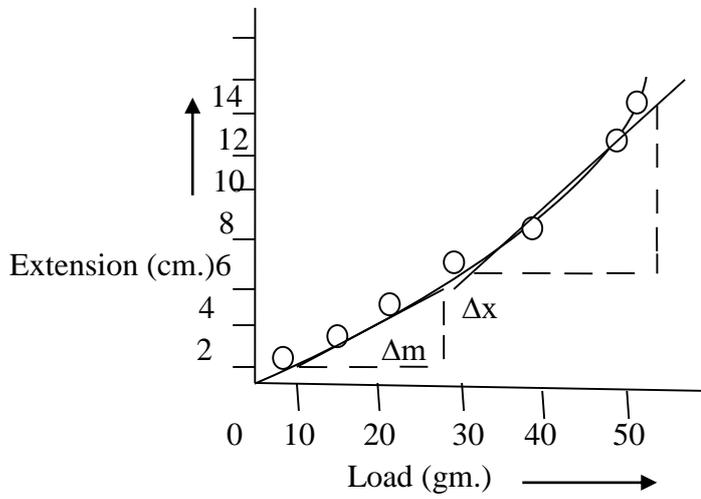
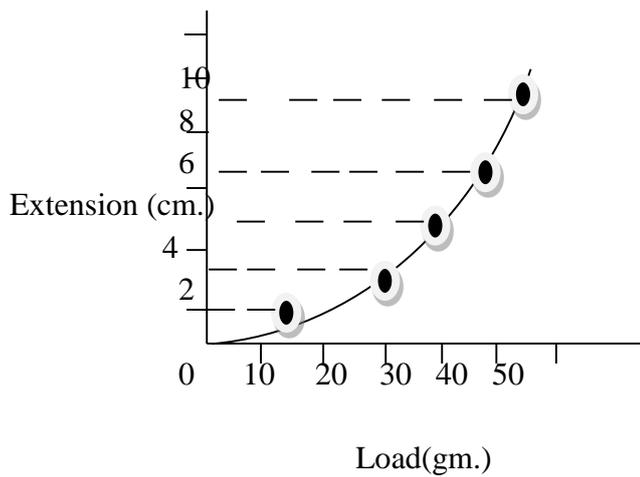

Figure 2
Figure 3
- (vi) Let us draw a graph between load and corresponding extension as shown in figure 2. Consider different points on the curve and draw tangents at these points. Obtain the values of Δm and Δx for different tangents. Now calculate the force constant using the following formula-
- (viii) From load extension graph [Figure 2], let us consider the area enclosed between the curve and the extension axis for different loads (weights) increasing in regular steps. The area enclosed are shown in figure 3. The area gives U_b corresponding to a particular extension.